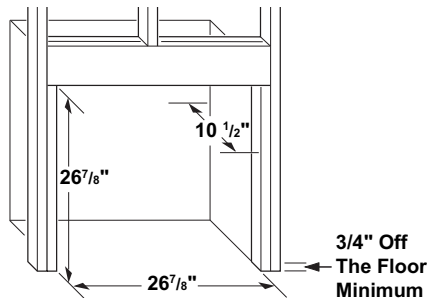

Figure 10 - Rough Opening for Installing in Wall
1. Frame in rough opening. Use dimensions shown in Figure 10 for the rough opening.